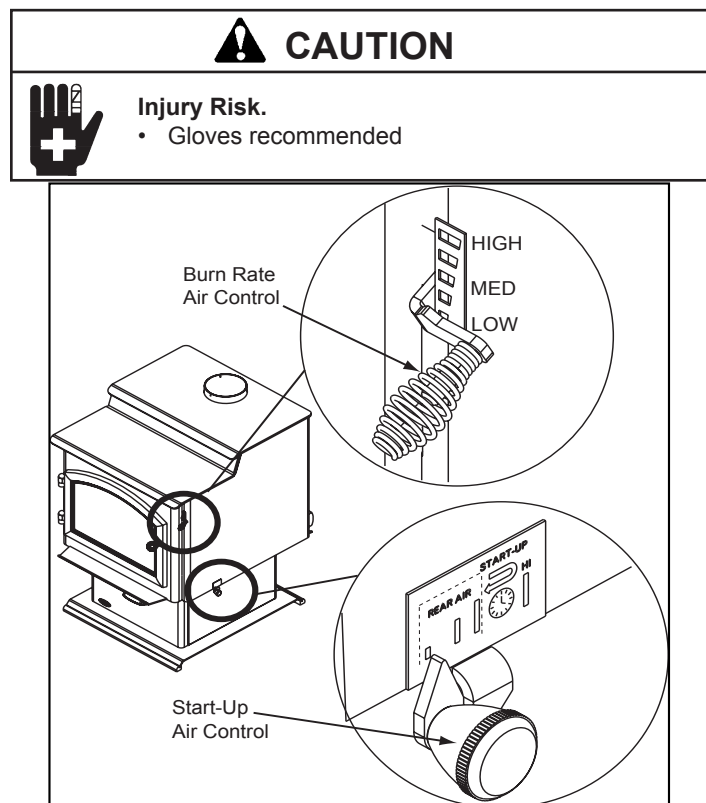

Figure 9.1
very important that the flames be maintained and not allowed to go out. This will ensure the cleanest possible fire. If the flames tend to go out, it is set too low for your burning conditions. The air control located at the upper right hand corner is used to adjust for burn rates. This is called the Burn Rate Air Control. **Figure 9.1**
Open both Burn Rate Air Control and ACC systems fully. To do this with the Burn Rate Air Control push spring handle up to high. For the ACC timer system push knob towards back of appliance until the knob is located under the high position. **Figure 9.1**
To maximize heat output with the ACC timer System or also known as high burn push the ACC Air Control lever towards the back of the appliance and leave. This combined with having the main burn rate control lever pushed up to the high position will deliver the most amount of air needed to achieve the highest amount of heat output. **Figure 9.1**
- Then activate the ACC timer system by pushing the knob all the back toward the appliance to “HI” then pull forwards towards the front of the appliance until the knob stops (**Figure 9.1 on page 9**).